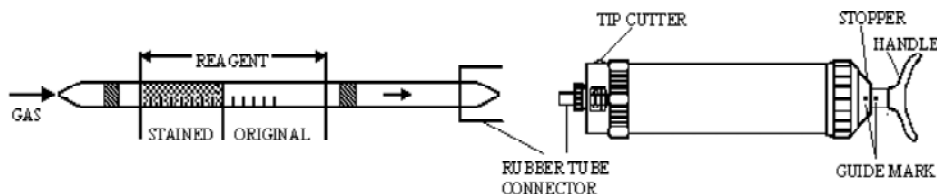

Fig.1
- ① Break both ends of detector tube.
- ② Insert the detector tube into aspirating pump securely as shown in Fig.1. (Arrow mark shall point to the pump.)
- ③ Align the guide marks on the shaft and stopper of the aspirating pump.
- ④ Pull the pump handle at full stroke until it locks and wait for 1.5 minutes or until the completion of sampling is confirmed with the flow indicator of the pump (See descriptions about the flow indicator in the instructions of the pump).